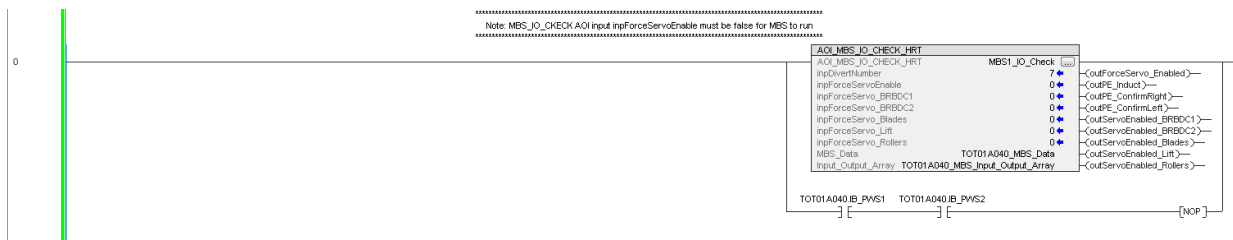

Figure 29: HRT AOI_MBS_IO_CHECK
- d. HRT (AOI_MBS_IO_CHECK) show in Figure 29.